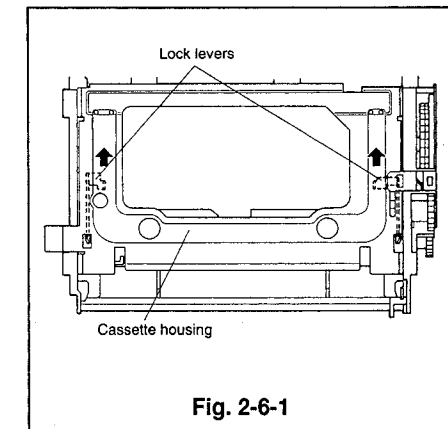
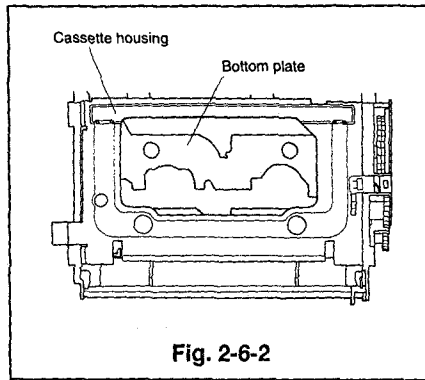
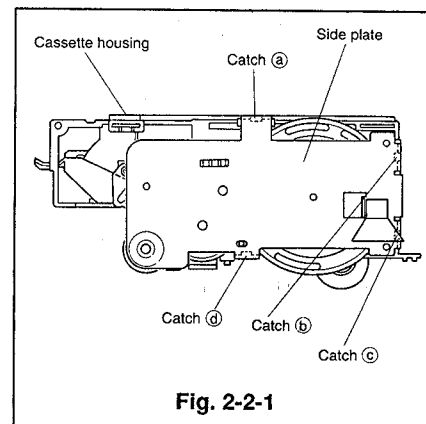
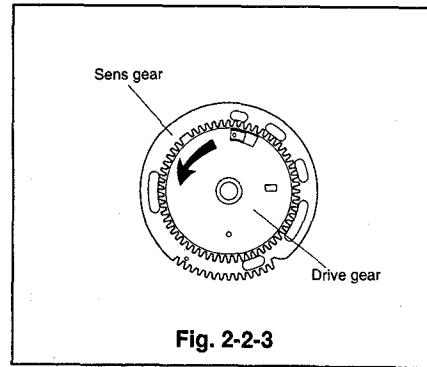

Fig. 2-6-1
Fig. 2-6-2
Fig. 2-2-1
Fig. 2-2-3
- 4 Pull the lock levers on both the supply and takeup side, shown in Fig. 2-6-1, in the direction shown by the arrow to shift the bottom plate to the position shown in Fig. 2-6-2.
- ① Remove the cassette housing. (Refer to Para. 2-1 for the removal method.)
- ② Unfasten the four catches (a, b, c and d) as shown in Fig. 2-2-1 and remove the side plate.
- ③ Remove the sens gear.
- ④ Pull the lock levers on both the supply and takeup sides, shown in Fig. 2-6-1, in the direction shown by the arrow to shift the bottom plate to the position shown in Fig. 2-6-2.
- ⑤ Remove the takeup arm.
- ⑥ To remove the drive gear from the sens gear, turn and pull the drive gear in the direction shown by the arrow shown in Fig. 2-2-3.
- ⑦ Install the takeup arm so that the shaft from the bottom plate enters between the takeup arm and takeup spring, after the bottom plate is in the position shown in Fig. 2-6-2.